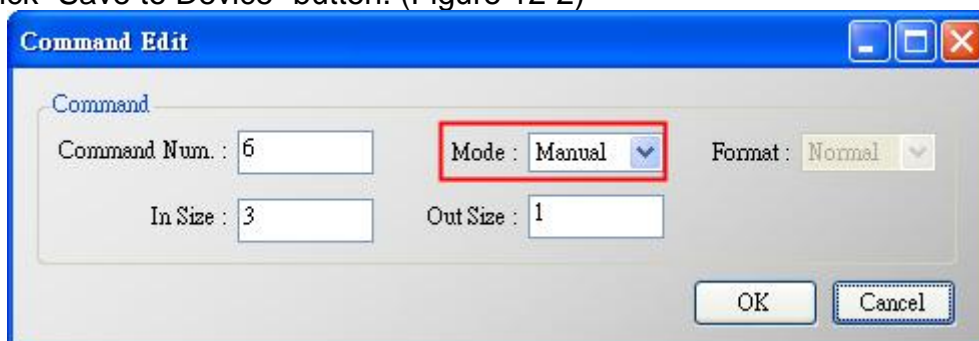

Figure 12-1 Add UserCMD(6)
- (1) Run "HG_Tool" and connect to HRT-710.
- (2) Open the "**Device Configuration**" page.
- (3) Add "UserCMD(6)" and choose "Manual" option in "Mode" field. (Figure 12-1)